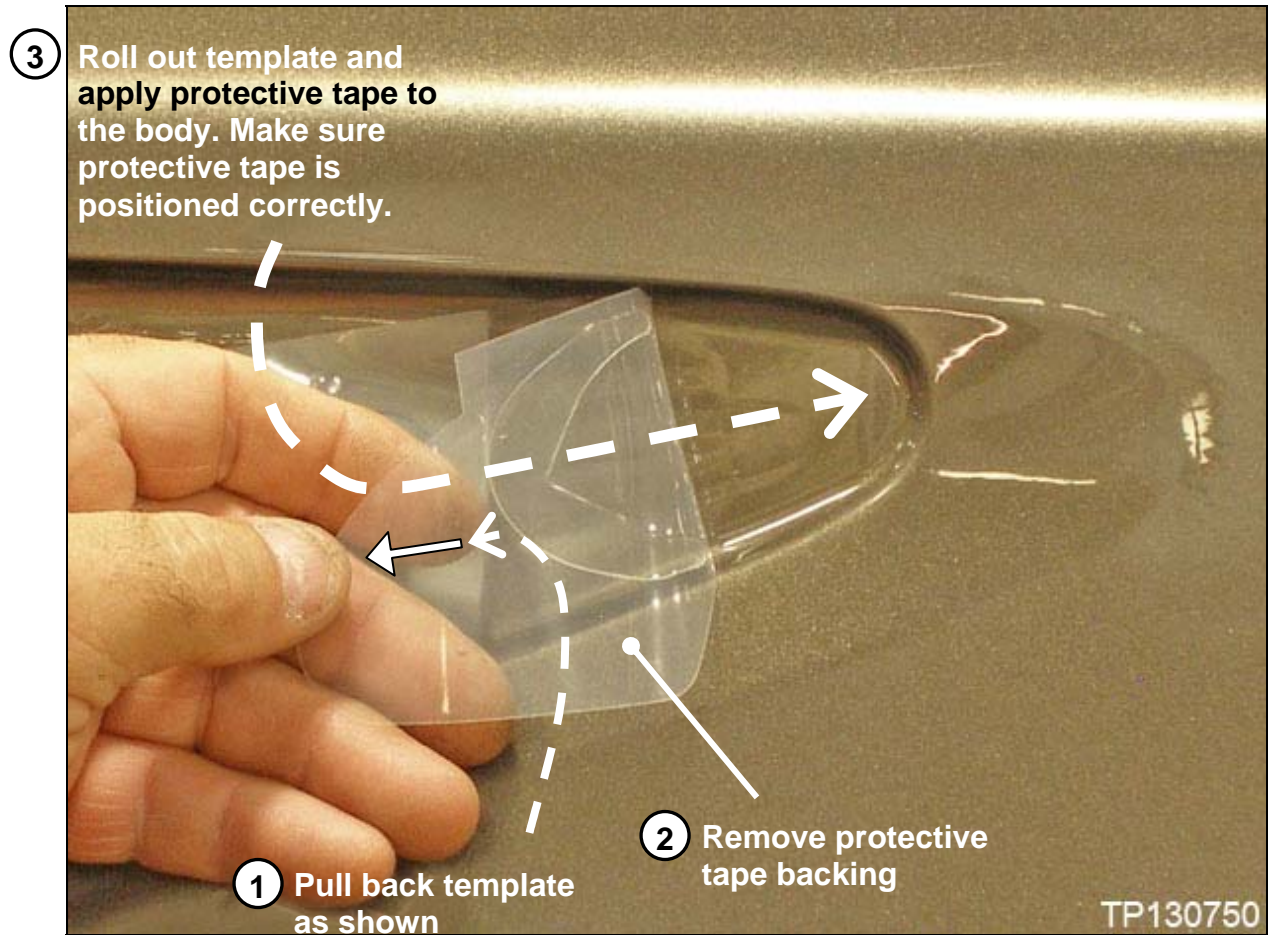

Figure 6
- Apply the protective tape as instructed in Figure 6.